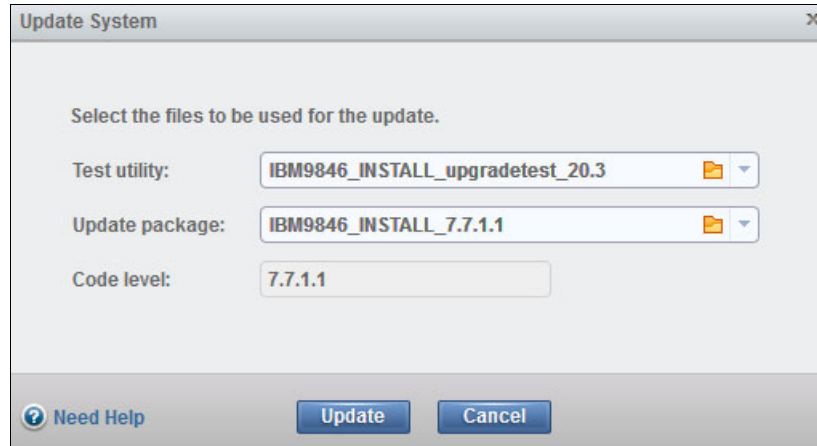

Figure 5-77 Update system file selection
2. The Update System wizard opens (Figure 5-77). Provide a name for the test utility and the update package. Use the folder buttons to select the correct file names and click **Update**.